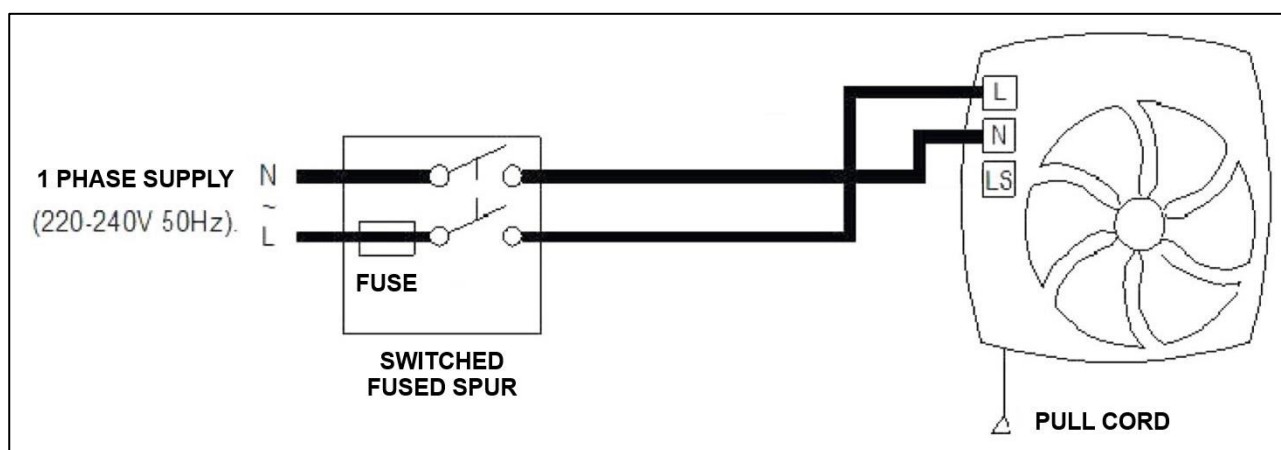

Figure 22
- a. Plug / socket connection (Figure 22)